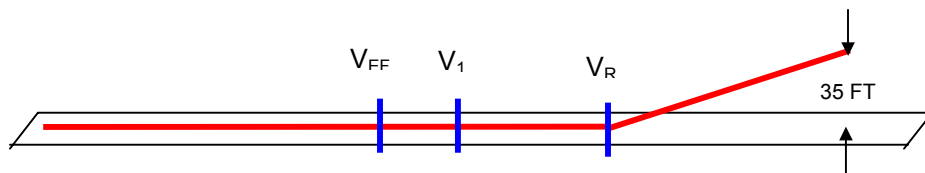

Figure 3 – Takeoff Distance
**Takeoff Distance (TOD)** (Figure 3) – is the distance required to accelerate on all engines to the vicinity of  $V_1$ , lose the critical engine, continue to  $V_R$ , rotate and reach 35 feet above the runway (15 feet for takeoff on a wet runway). The 35 foot point (15 foot for wet runways) is often referred to as the “screen height”. This means that the aircraft could clear a screen of that height at the end of the takeoff distance. As was mentioned before, the rotation speed must be selected so that  $V_2$  is reached before the 35 foot point.